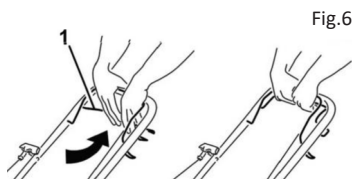

Fig.6
The motion is controlled by the drive lever (Fig. 6 - item 1). When the lever is pulled toward the handle, the lawn mower starts moving.